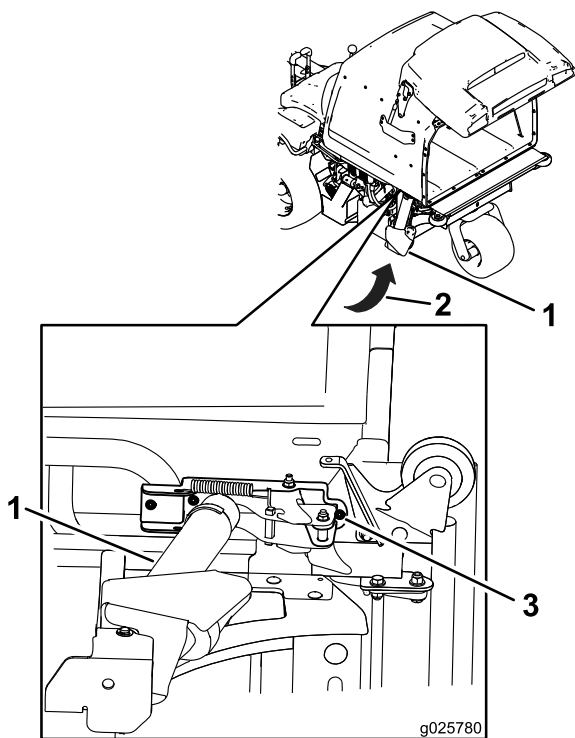

Figure 8
- Looking underneath, locate the rear hole in the hopper-lift-bracket assembly (Figure 8).
15. Drill a 8.4 mm (11/32 inch) diameter hole into the rear frame (Figure 8).